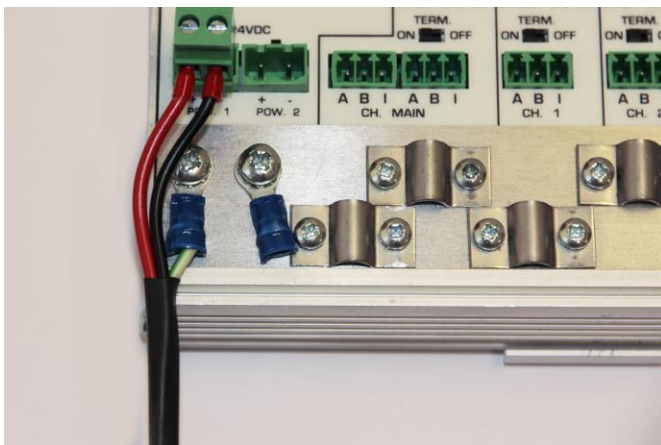

Fig. 12 - Connection to Ground Rail
-  power lead to the Ground Rail of the ProfiHub B5+R. Connect the Ground Rail to the common ground with a separate ground lead. See Fig. 12 for an example.